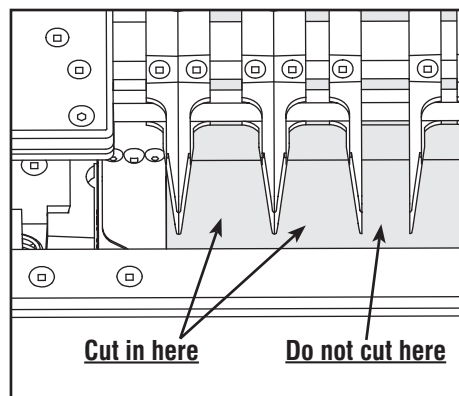

Fig. I12
**NOTE:** Cut only between angled corners - do not cut between straight edges as shown in Fig. I12.